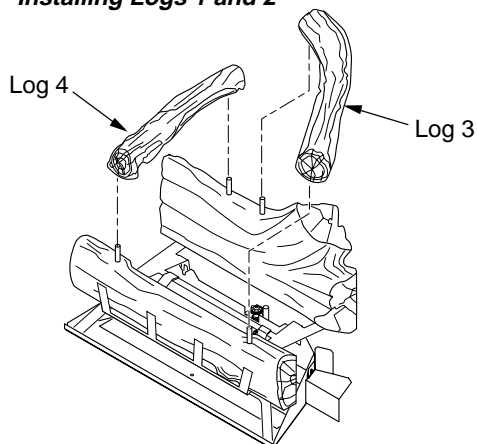

Figure 25 - Installing Logs 3 and 4
3. Insert pegs on back of log 3 into right hole on log 1 and right hole of log 2 (see Figure 25).
4. Insert pegs on back of log 4 into left hole on log 1 and left hole of log 2 (see Figure 25).